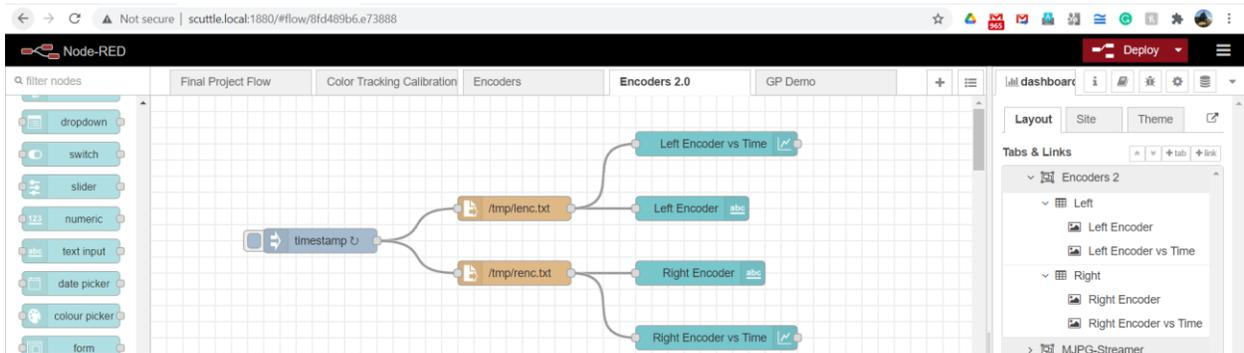

Figure 28
c. It should create a flow that looks like Figure 28 below: